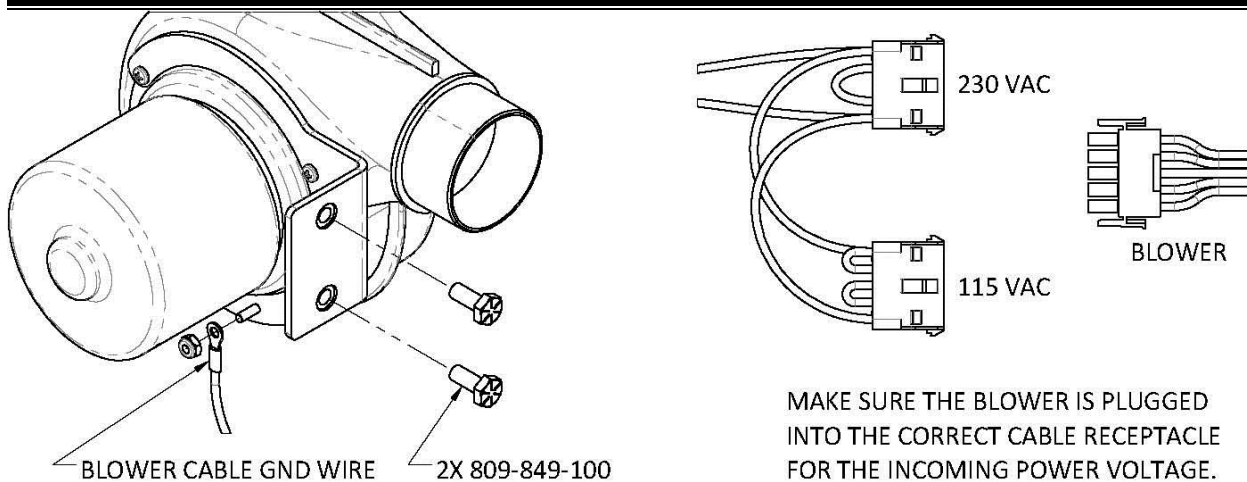

Figure 11, Blower Installation
2. Secure by tightening two screws (809-849-100) through the exterior of the rack bezel support as shown in Figure 11.